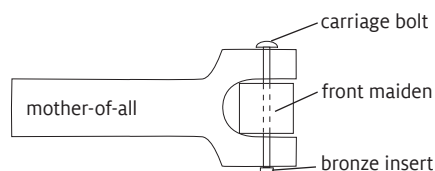

FIGURE 1 - BOLT AND BRONZE INSERT
- If your wheel has a bolt screwed into a bronze insert, remove the bolt (figure 1).
(figure 1) or with the bolt, washers, and T-knob (figure 2).